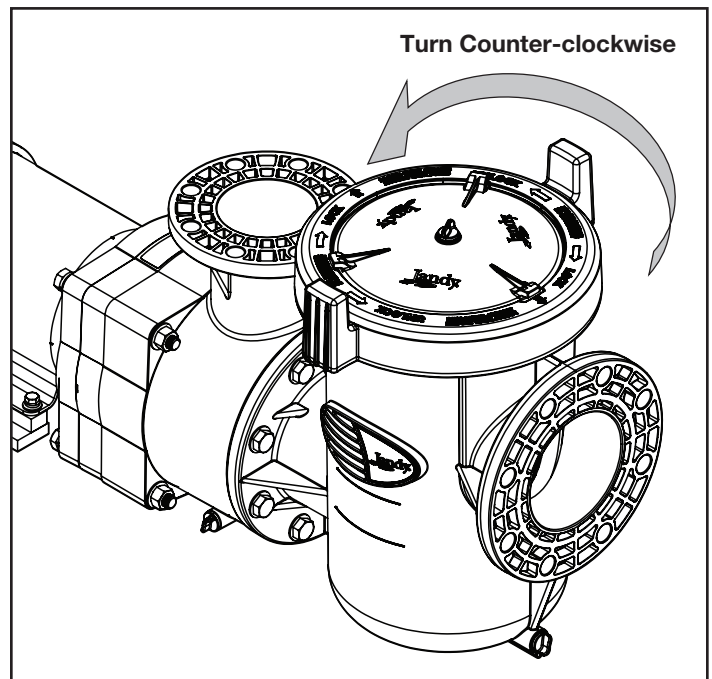

Figure 8. Disengage Lock Ring
4. Check that a section of straight pipe, with a length that is five times its diameter, is installed between the suction side of the pump and the first elbow. See Figure 8.
5. Follow the markings on the locking ring. Using both handles, slowly turn the locking ring counterclockwise until the lid and locking ring disengage from the pump housing. See Figure 8.